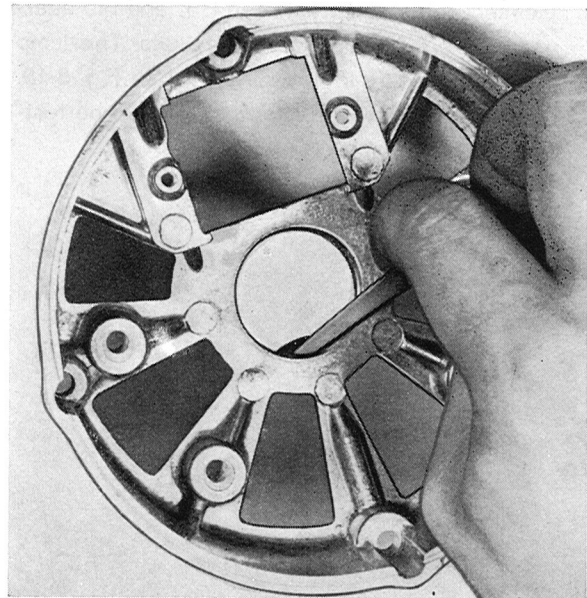

Fig. 3-18. O-ring removal
1. Remove the O-ring with a steel blade with rounded edges (for example, a feeler gauge), see Fig. 3-18.